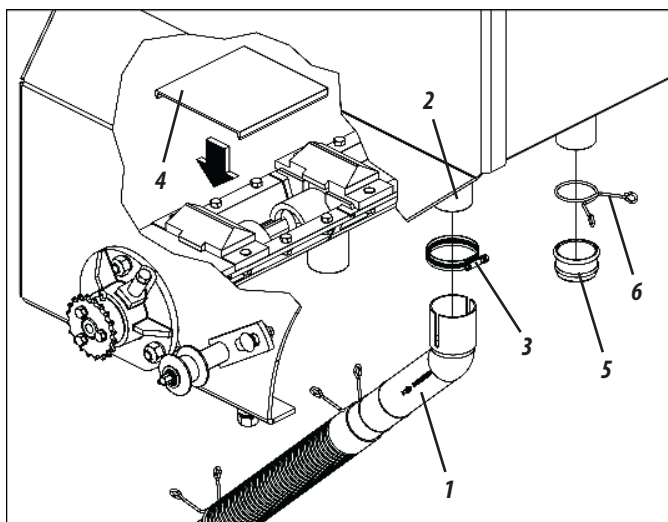

Figure 32
- 01 - Fit the spouts (1) in the distributor outputs (2) through the clamp (3), making the connection of spouts that are closer to the lines, preventing them from getting bent or folded.
- 02 - The fertilizer outputs that will not be used must be closed with caps (4) inside the tank with the cap (5) through the clamp (6) at the external outputs, this will prevent fine fertilizer particles from falling onto the seed drill, as shown in Figure 32.